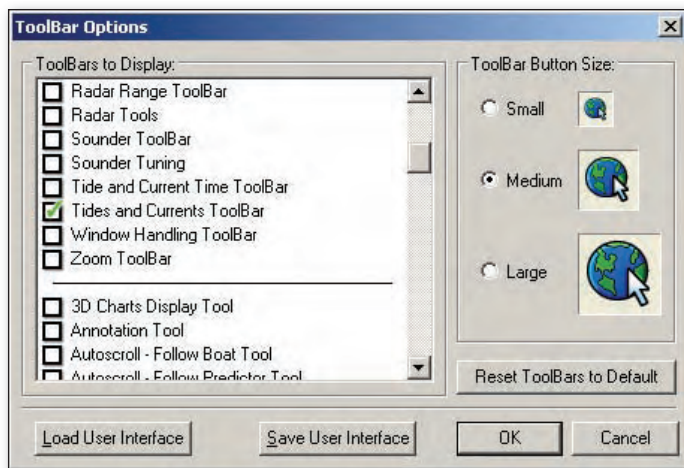

Figure 16.1 - ToolBar Options Menu
2. Place a check-mark next to the name of the Tool or ToolBar that you want to display. Remove the check-mark to turn the Tool or ToolBar off. The list is alphabetical. The top 1/4 of the list contains ToolBars; the bottom 3/4 of the list are individual Tools. The two types are divided by a horizontal black line (see **Figure 16.1**).
2. On the right-hand side of the ToolBar Options menu, you will see a section labeled **ToolBar Button Size** (as shown in **Figure 16.1**) and three radio buttons with options for **Small**, **Medium** and **Large**. Click the radio button that corresponds to the size you want to use - default setting is Medium.